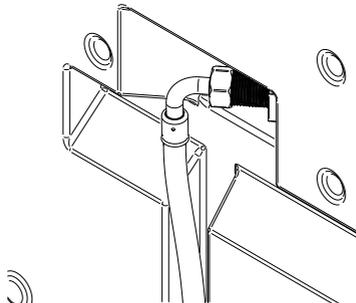

Fig. 6
4.12 **Cold mains feed connection:** The connection to the cold water mains inlet is made using the 15 mm compression flexible hose supplied. Ensure the rubber sealing washer supplied with the hose is installed when the hose is fitted. When tightening ensure the fill valve within the tank is not rotated. If the valve is rotated it may not function correctly with the risk of flooding. The hose is made water tight with a sealing washer on assembly, nip tight to 4 to 5 Nm for water tight seal. **(Do not overtighten)**. See Fig. 6.